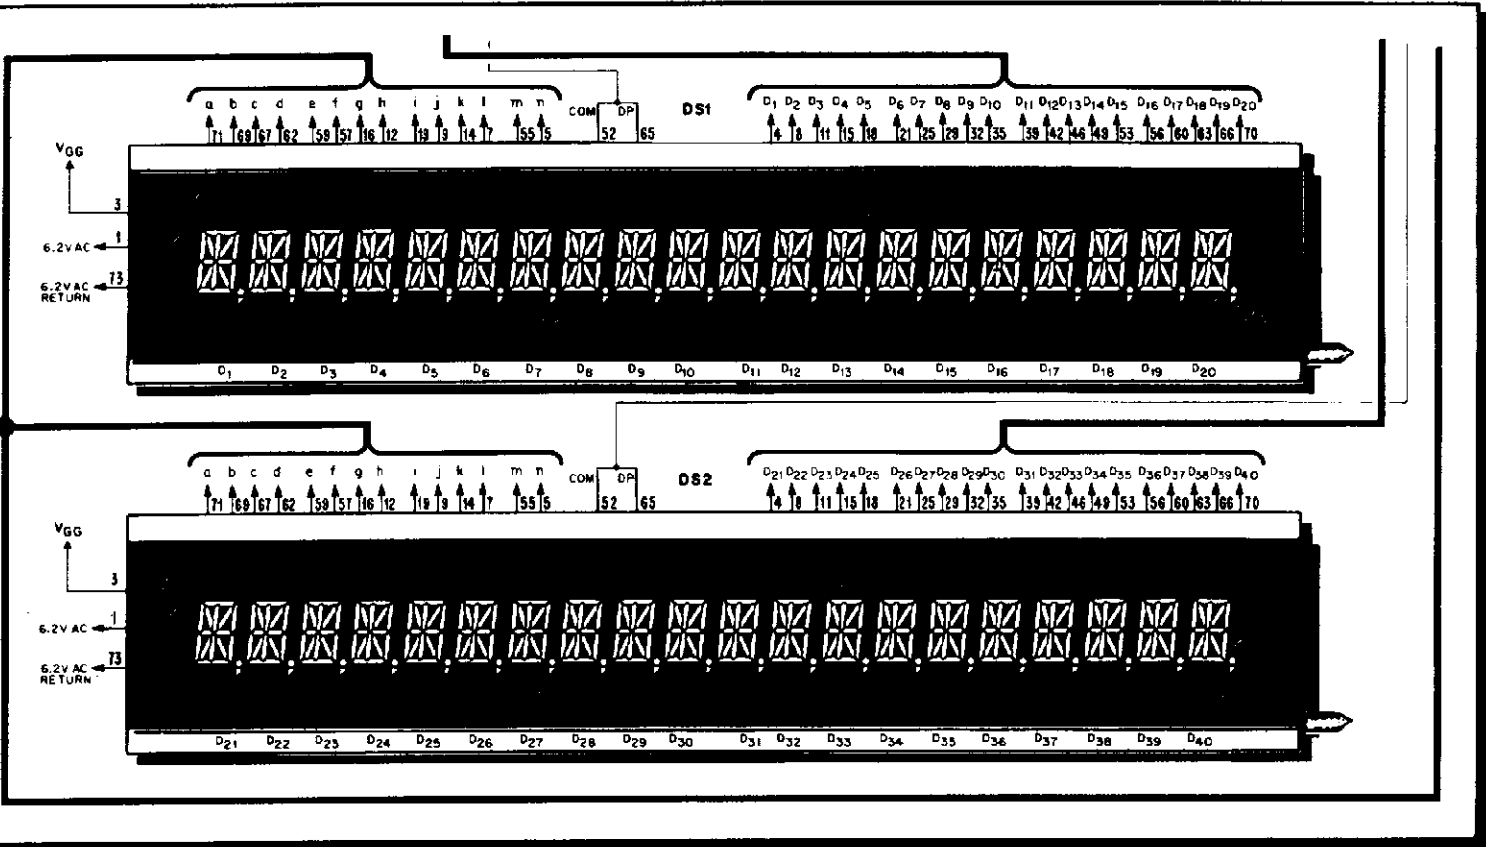

FIGURE 2.
5. THE DIFFERENT DISPLAYS, XO-840 AND XO-870, ARE ELECTRICALLY EQUIVALENT. HOWEVER, THE PINOUT NUMBERING SEQUENCES ARE DIFFERENT. FIGURE 2 ILLUSTRATES THE SCHEMATIC PORTION OF MA-644F UTILIZING THE XO-870 DISPLAYS.